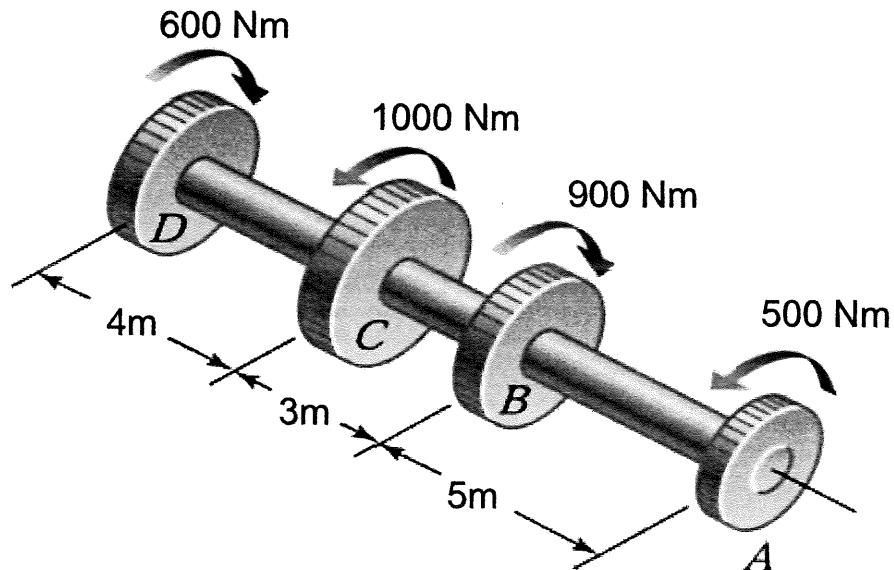

Figure 1
A shaft composed of segments Bronze (AB), Aluminium (BC), and Steel (CD) are fastened to rigid supports and loaded as shown in Figure 1. The diameter of the shaft is 50mm. For bronze, $G = 35 \text{ GPa}$; aluminium, $G = 28 \text{ GPa}$, and for steel, $G = 83 \text{ GPa}$.